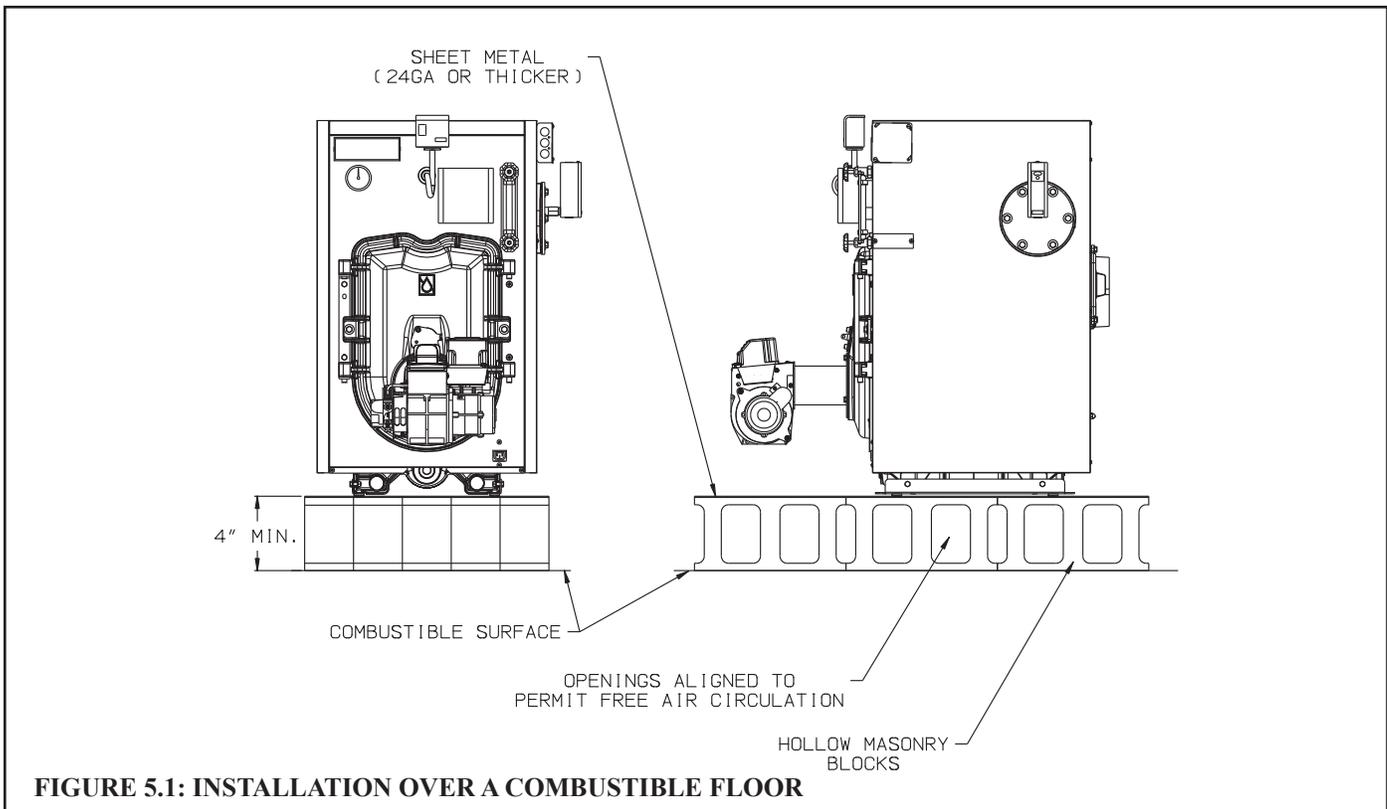

FIGURE 5.1: INSTALLATION OVER A COMBUSTIBLE FLOOR
- 1) Do not install this boiler directly on a combustible floor. Where it is desired to install an FSZ on a non-carpeted combustible floor, install the boiler on a base constructed as shown in Figure 5.1